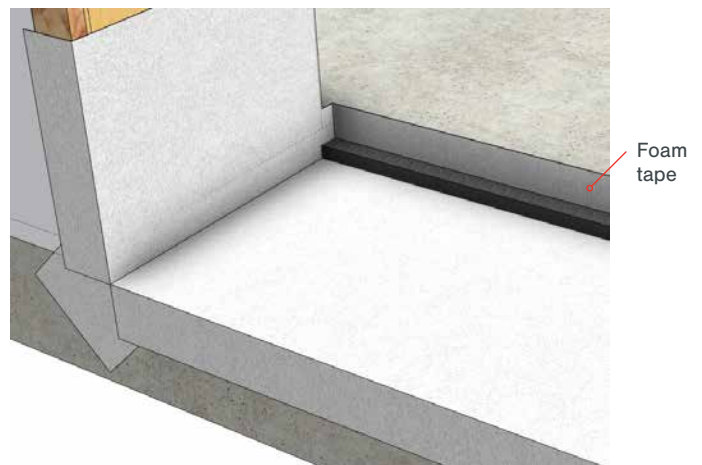

Fig 2
- Adhere the solid foam tape from the Installation Kit to the bottom of the sill pan, place it against the interior vertical lip of the sill pan. Run the tape across the entire length of the R.O. ensuring it is tucked tightly into the corners. (Fig 2.)